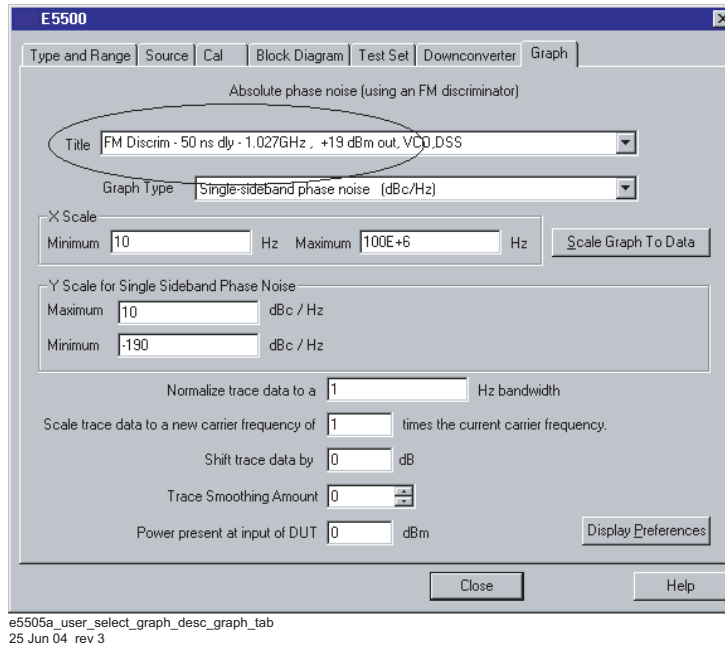

Figure 205 Select graph description on Graph tab
- 13 Enter a graph description of your choice. See Figure 205 on page 282.